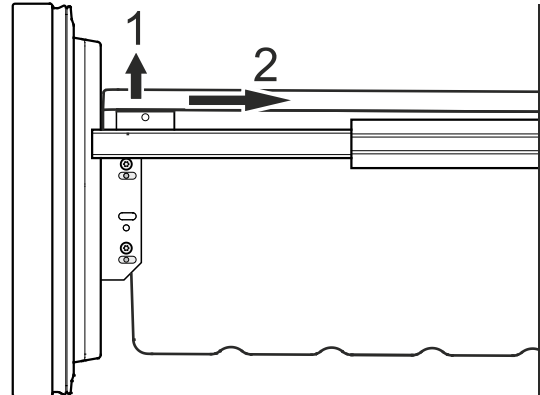
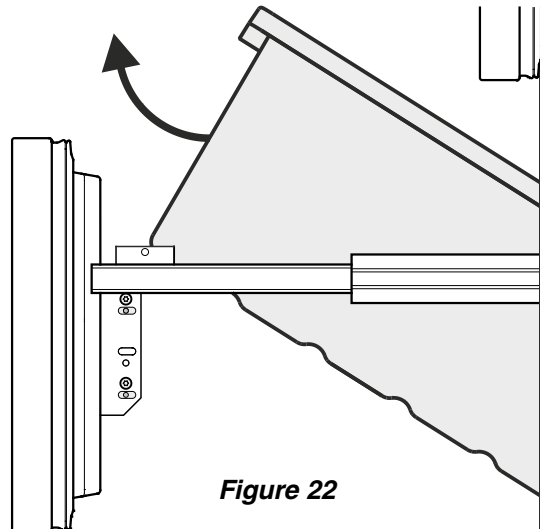

Figure 21
Figure 22
- Unlatch the container on the left and right corners by pulling upwards (1) - **Figure 21**.
- Slide the container backwards (2) - **Figure 21**.
- Tilt the container at an angle and remove - **Figure 22**.
- Remove the freezer drawer containers as shown in *Figure 21* and *Figure 22*.